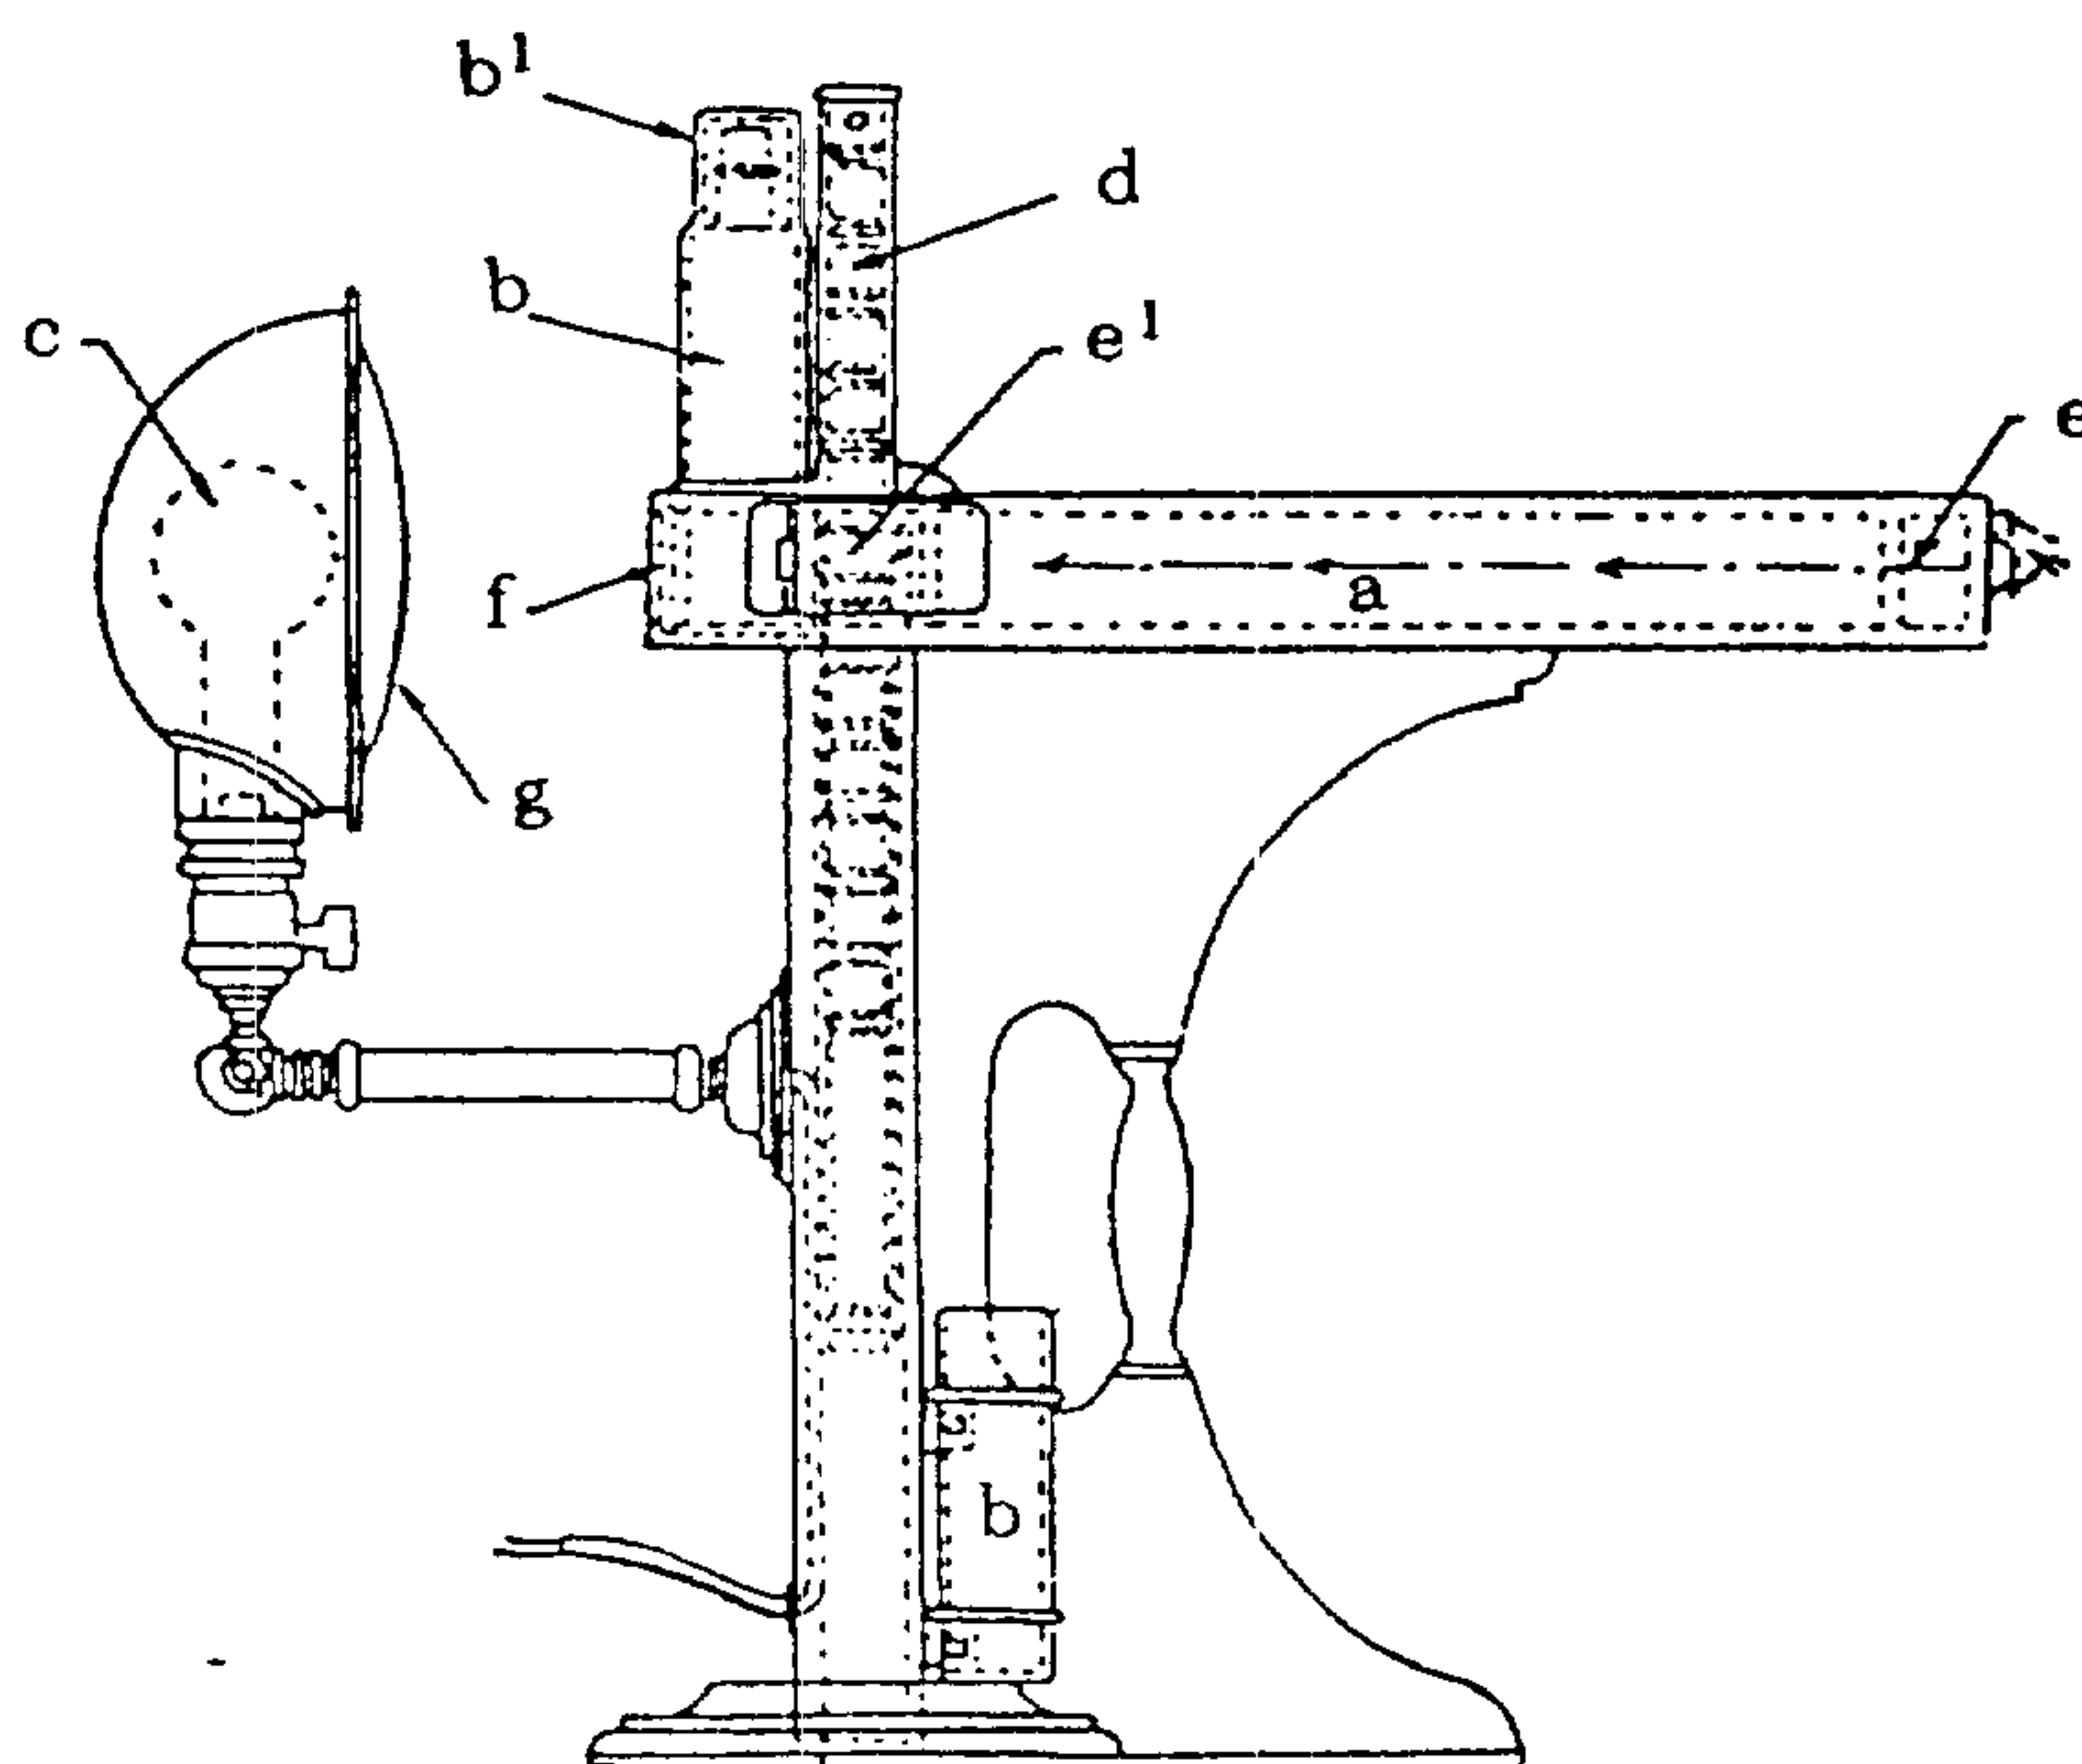

Figure 1. Example of union colorimeter
(1) This is shown in figure 1 and consists of a : A sample container, b : A cap of sample container, b' : A white light, c : A pair of standard color glass.
(2) Dark box
12 kinds in table 1 make a set and they are inserted in the frame in figure 1.